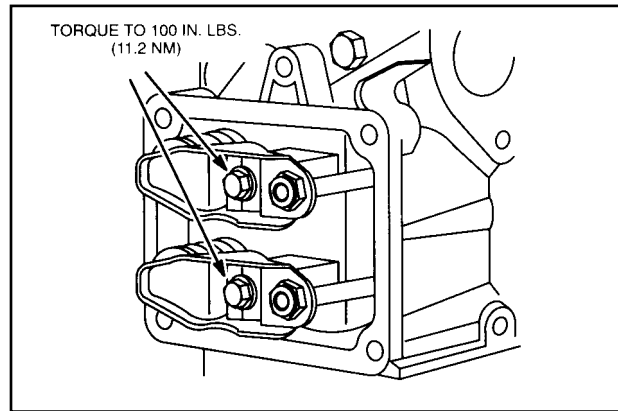

Fig. 22 - Install Rocker Arms
4. Assemble rocker arms and supports to cylinder head, Fig. 22. Apply Loctite® 242 or similar sealant to threads.